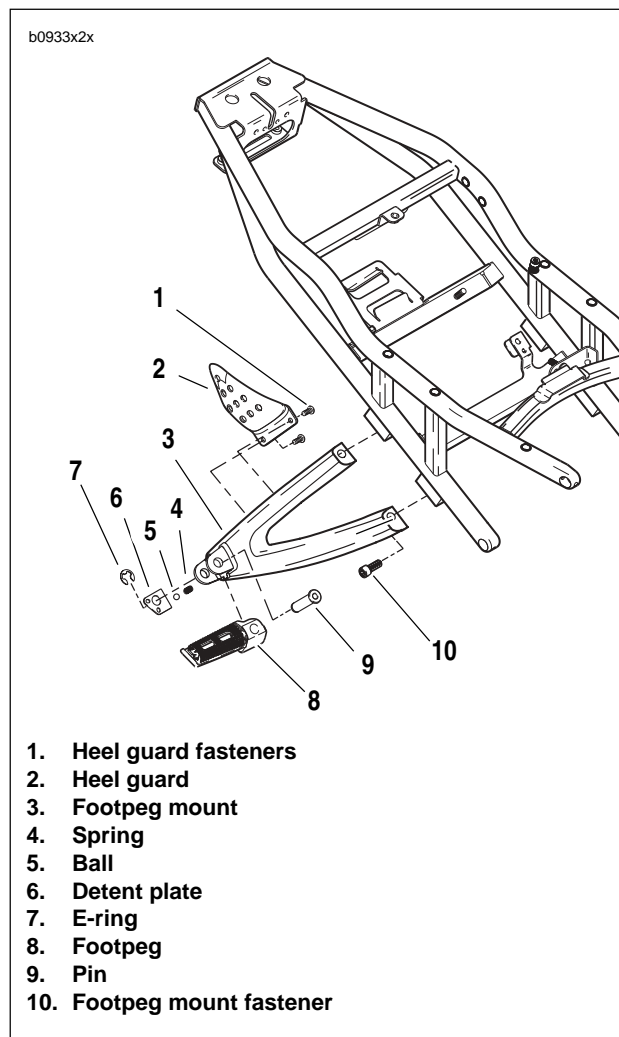

Figure 2-101. Passenger Footpeg, Mount and Heel Guard Assembly
1. See Figure 2-101. Remove e-ring (7).
2. Remove footpeg pin (9).
3. Remove footpeg (8), detent plate (6), ball (5) and spring (4).
1. See Figure 2-101. Remove heel guard fasteners (1).
2. Remove heel guard (2).
1. See Figure 2-101. Remove footpeg mount fasteners (10).
2. Remove footpeg mount (3).
1. See Figure 2-101. Position footpeg (8), detent plate (6), ball (5), and spring (4) on to footpeg mount (3).
2. Install footpeg pin (9).
3. Install e-ring (7).
1. See Figure 2-101. Position heel guard (2) onto footpeg mounts (3).
2. Install heel guard (2). Tightening heel guard fasteners to 48-72 **in-lbs** (5-8 Nm).
1. See Figure 2-101. Position footpeg mount (3) onto tail frame.
2. Install footpeg mount (3). Using LOCTITE 272 tighten, fasteners (10) to 25-28 **ft-lbs** (34-38 Nm).